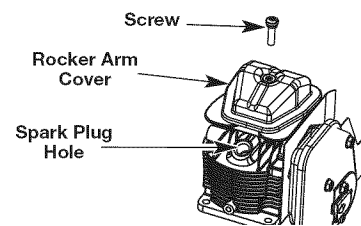

Fig. 29
5. Clean dirt from around the rocker arm cover. Remove the screw holding the rocker arm cover with a large flat blade screwdriver or Torx T-25 bit (Fig. 29). Remove the rocker arm cover and gasket.